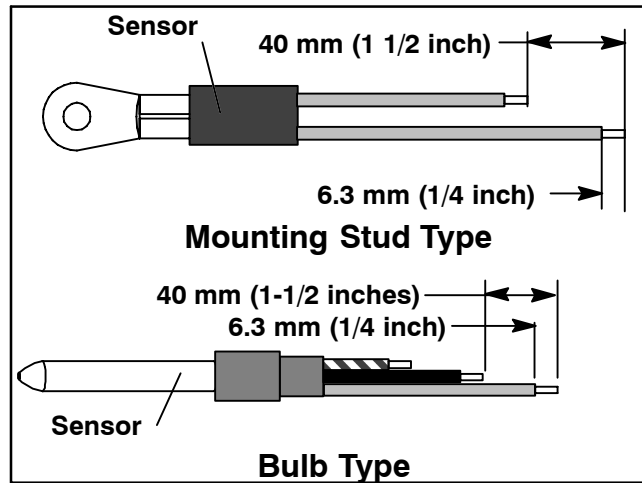

Figure 6-25 Sensor Types
- c. If required, prepare the replacement sensor by cutting sensor wire(s) back 40mm (1-1/2 inch). For 3-wire sensors, the black wire should be cut at the middle length and the red/white wire cut to the shorter length (See Figure 6-25).